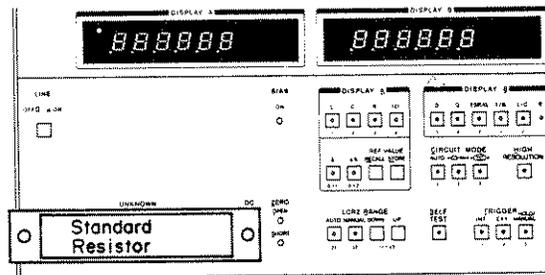

Figure 4-5. Resistance Accuracy Test Setup.
2. Connect 100Ω standard resistor direct to UNKNOWN terminals as shown in Figure 4-5.